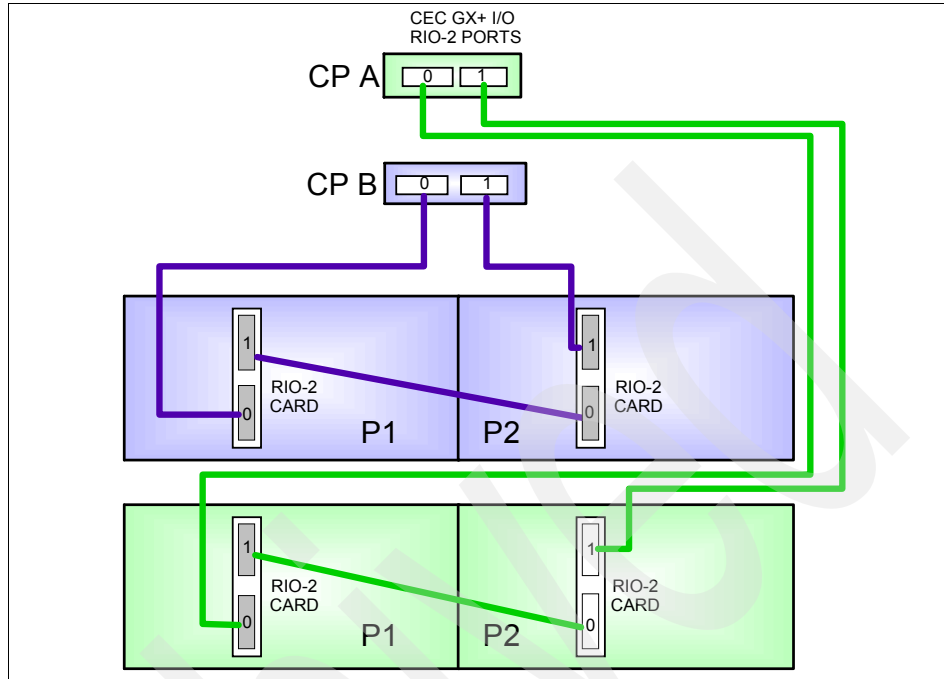

Figure 2-11 Single loop 7040-61D
- ▶ Single-loop (Figure 2-11) mode connects an entire I/O drawer to the CEC using one RIO-2 loop (2 ports). The two I/O planars in the I/O drawer are connected together using a short RIO-2 cable. Single-loop connection requires one loop (2 ports) per I/O drawer.
These cables provides a data and communication path between the memory cards and the I/O drawers (Figure 2-11).